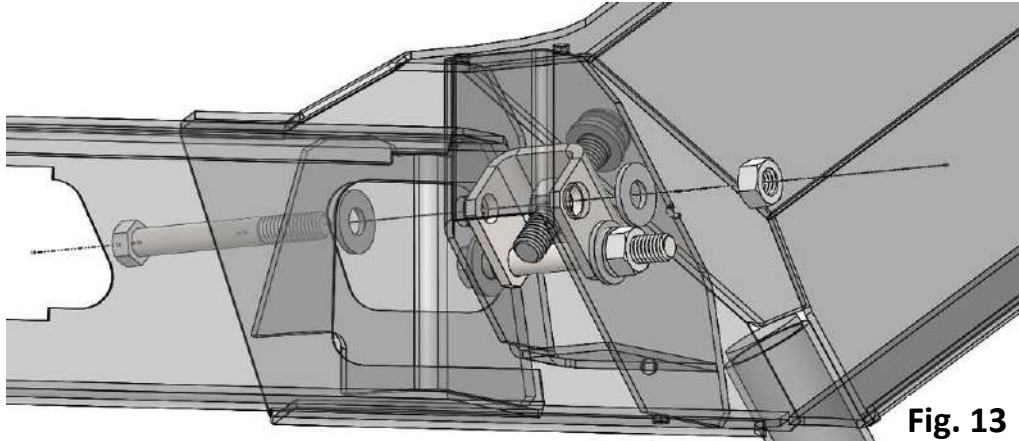

Fig. 13
- c. While holding the rail in place, insert two 7/16” x 3-1/2” hex bolts with washers through the opening at the side of the windshield mount, then through the two holes in the side rail. It may help to place the washers inside the pocket before installing the bolts to provide more clearance. Align the holes of the slack bracket and make sure both bolts go through the slack bracket holes (using the button head screw to help position the slack bracket). Lastly, pass the bolts through the last set of holes on the back side of the windshield mount. Place a washer, then a 7/16” lock nut on each bolt. Loosely start the lock nuts, but do not tighten at this time. **(Fig. 13)** (MAKE SURE YOU DO NOT LET THE RAIL HANG LOOSELY AT THE REAR OF THE VEHICLE AT ANY POINT WITHOUT BEING SUPPORTED AS THIS MAY CAUSE DAMAGE TO THE WINDSHIELD MOUNT, AND/OR THE VEHICLE!!!)